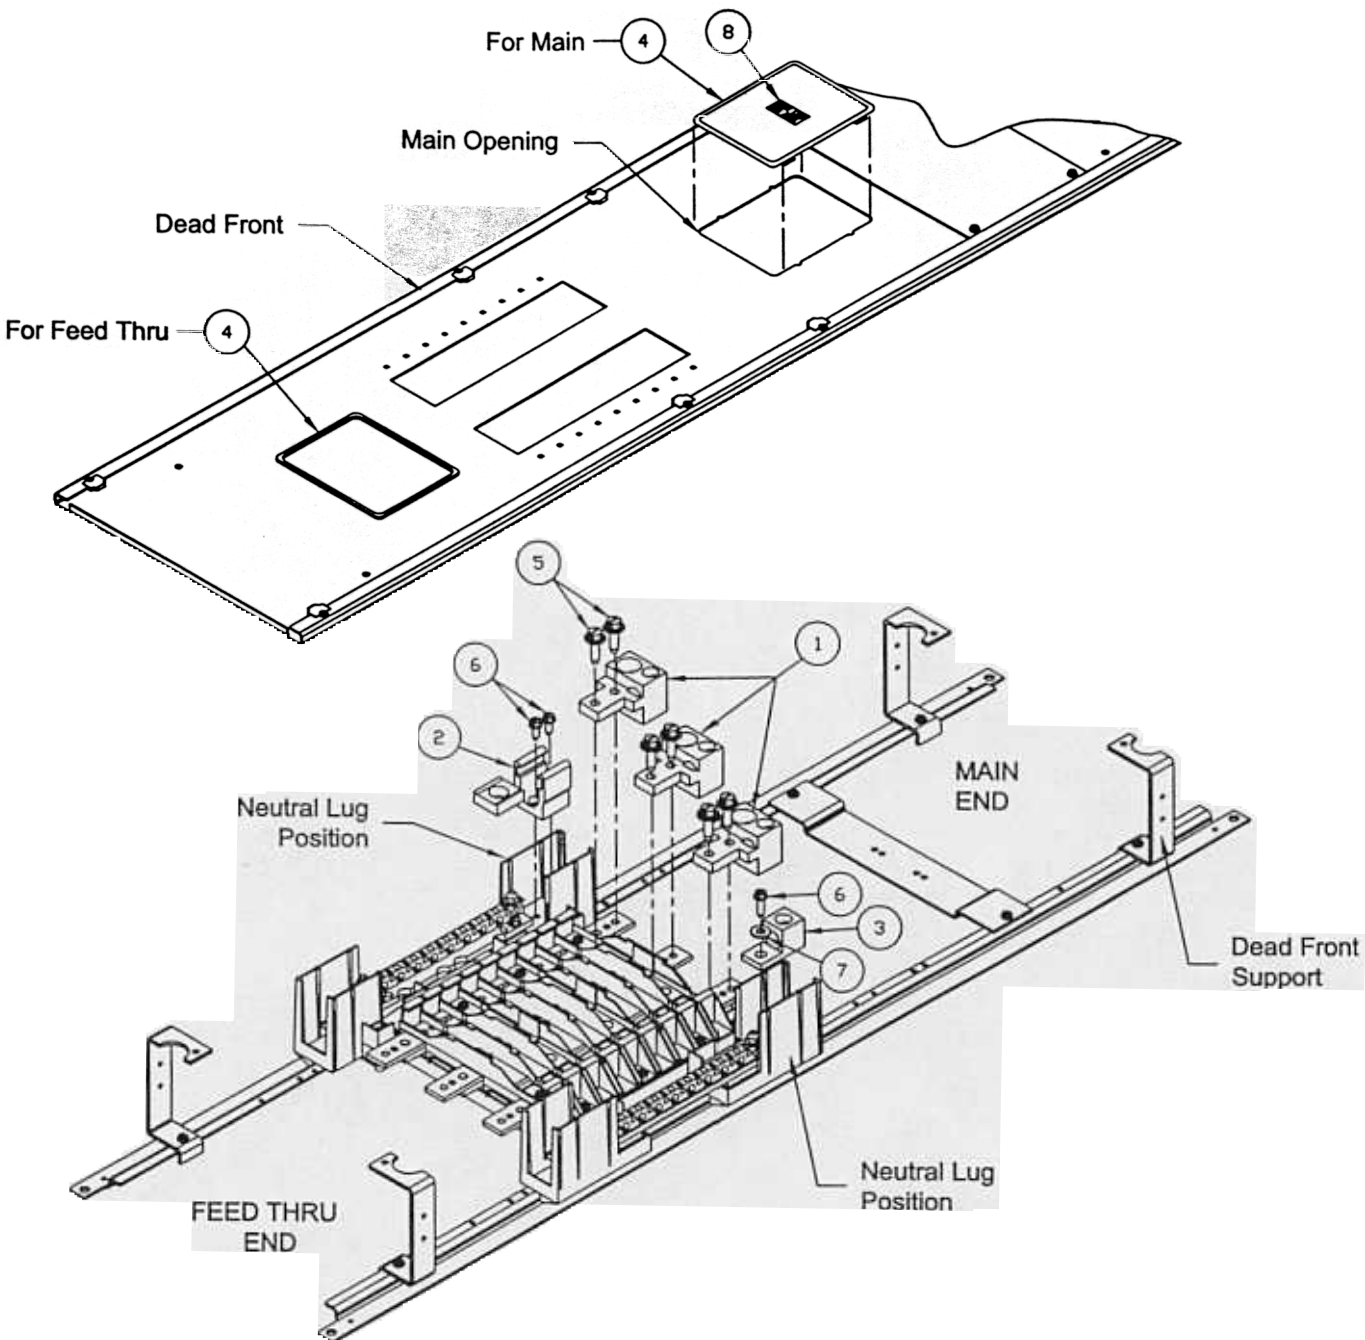

FIGURE 1: LUG KIT INSTALLATION
- 1. For installation as main lugs.** Lock off all power to this equipment before working on it. Main lugs must be installed at the designated main end of the panel. Refer to Figure 1 to determine the correct location. Remove the dead front and main, if installed. Position the main lugs (item 1) as shown.
- Fasten each lug to the panel section or main bus using two 5/16"-18 thread forming SEMS screws (item 5) per lug. Torque the screws to the value indicated on the tightening torque label on the rear of the dead front.
- On 4 wire systems, neutral lugs are required. Loosen the cable binding screw in the lay-in lug (item 2), remove the cap plate, and place the lug on the lug pad inside the neutral barrier cavity, as shown. Align the two lug holes with the mounting holes on the lug pad centerline. Fasten the lug with two 1/4"-20 thread forming screws (item 6). Place the tang lug (item 3) in the other barrier cavity, and align its hole with the innermost lug pad hole. See reference drawing below for the correct position. Fasten the tang lug using a 1/4"-20 self threading screw (item 6) with a plain washer (item 7). Torque all lug mounting screws to the value indicated on the tightening torque label on the rear of the dead front.
- Remove breaker dead front cover if installed, and replace it with the cover plate (item 4) provided with this kit. The embossed side of the plate assembles toward the dead front's back. This plate is attached to the dead front by first hooking the tabs on one edge of the plate to one edge of the dead front opening, and then snapping the tabs on the other edge of the plate into place. Apply the "MAIN LUG" label (item 8) as shown (main lug application only).
- 7. For installation as Feed thru lugs.** Follow steps (1) through (6) except that the kit must be installed at the feed thru end of the panel and any pre-existing assembly at that location must be removed prior to installation of this kit. In addition, do not install the "MAIN LUG" label.